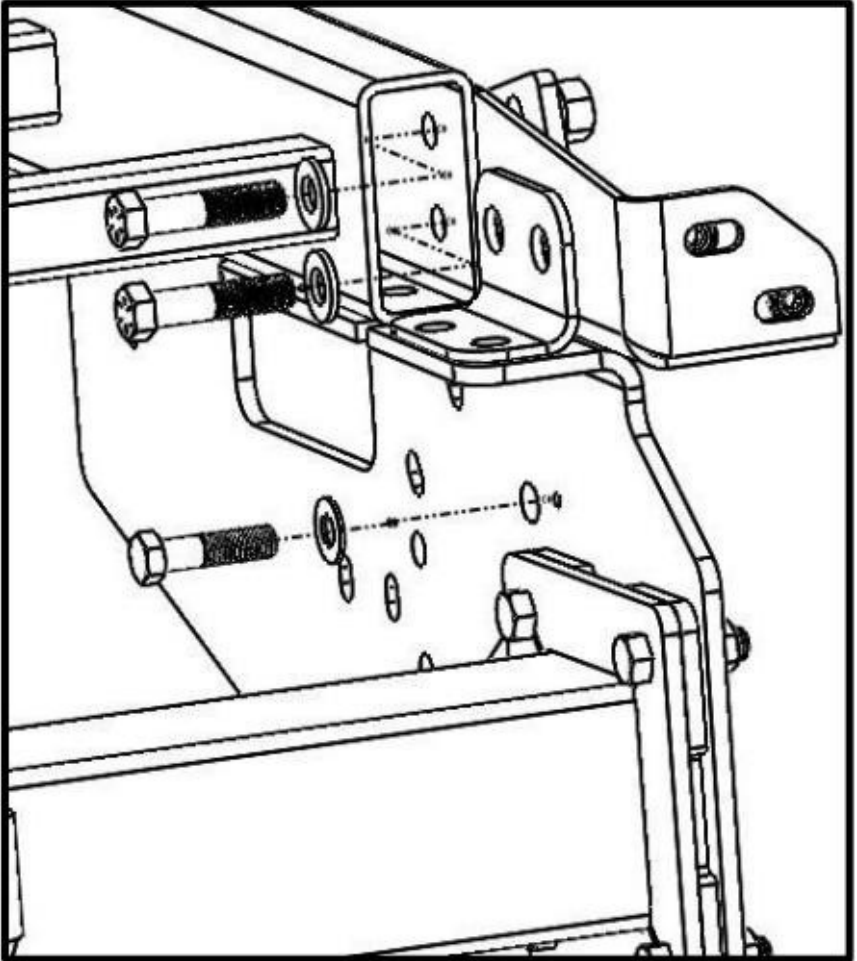

Figure 7.1
Step 7: Replace the Bumper Bracket Bolts with two 1/2-13 x 2" Grade 8 Bolts with 1/2" washers. Next, Install one 1/2"-13 x 2" Grade 8 Bolt with one 1/2" Washer through the hole in the Super Hitch Side Plate just above the Cross Tube. See figure 7.1.